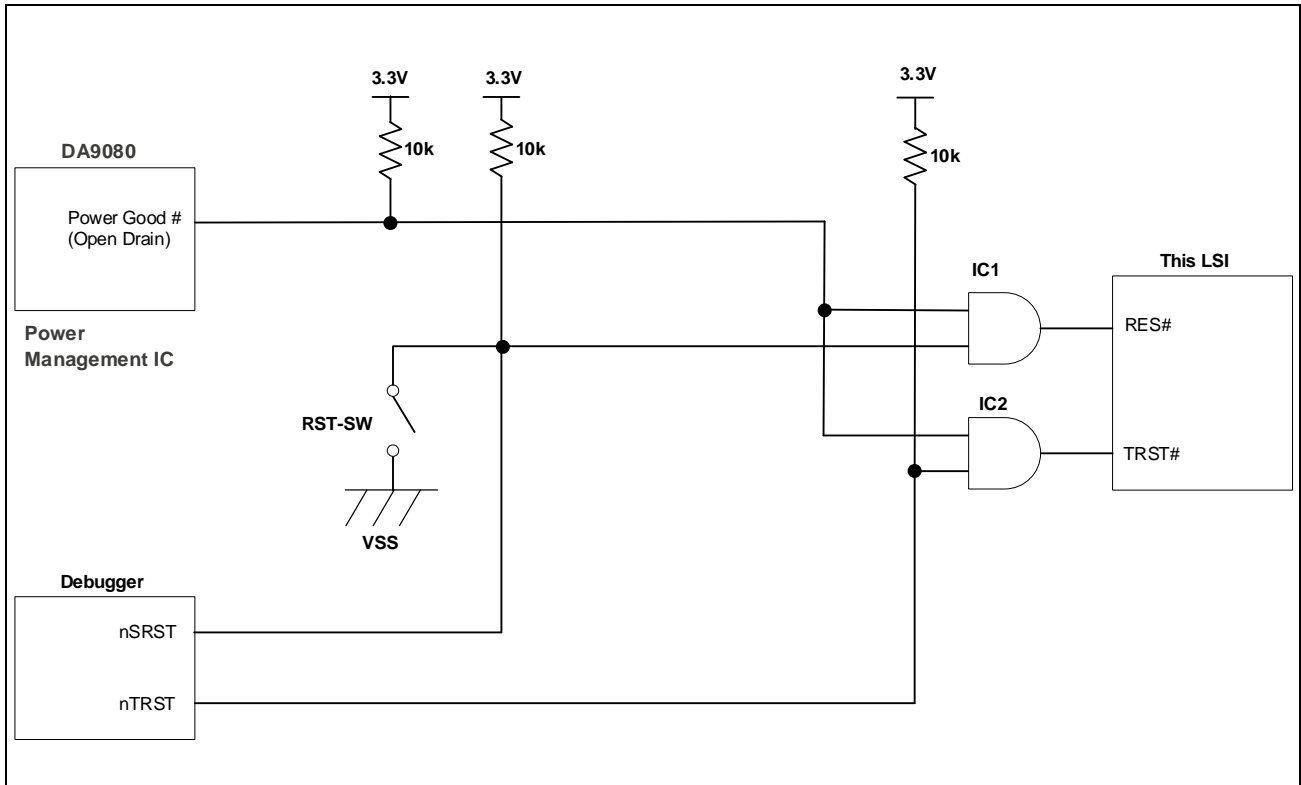
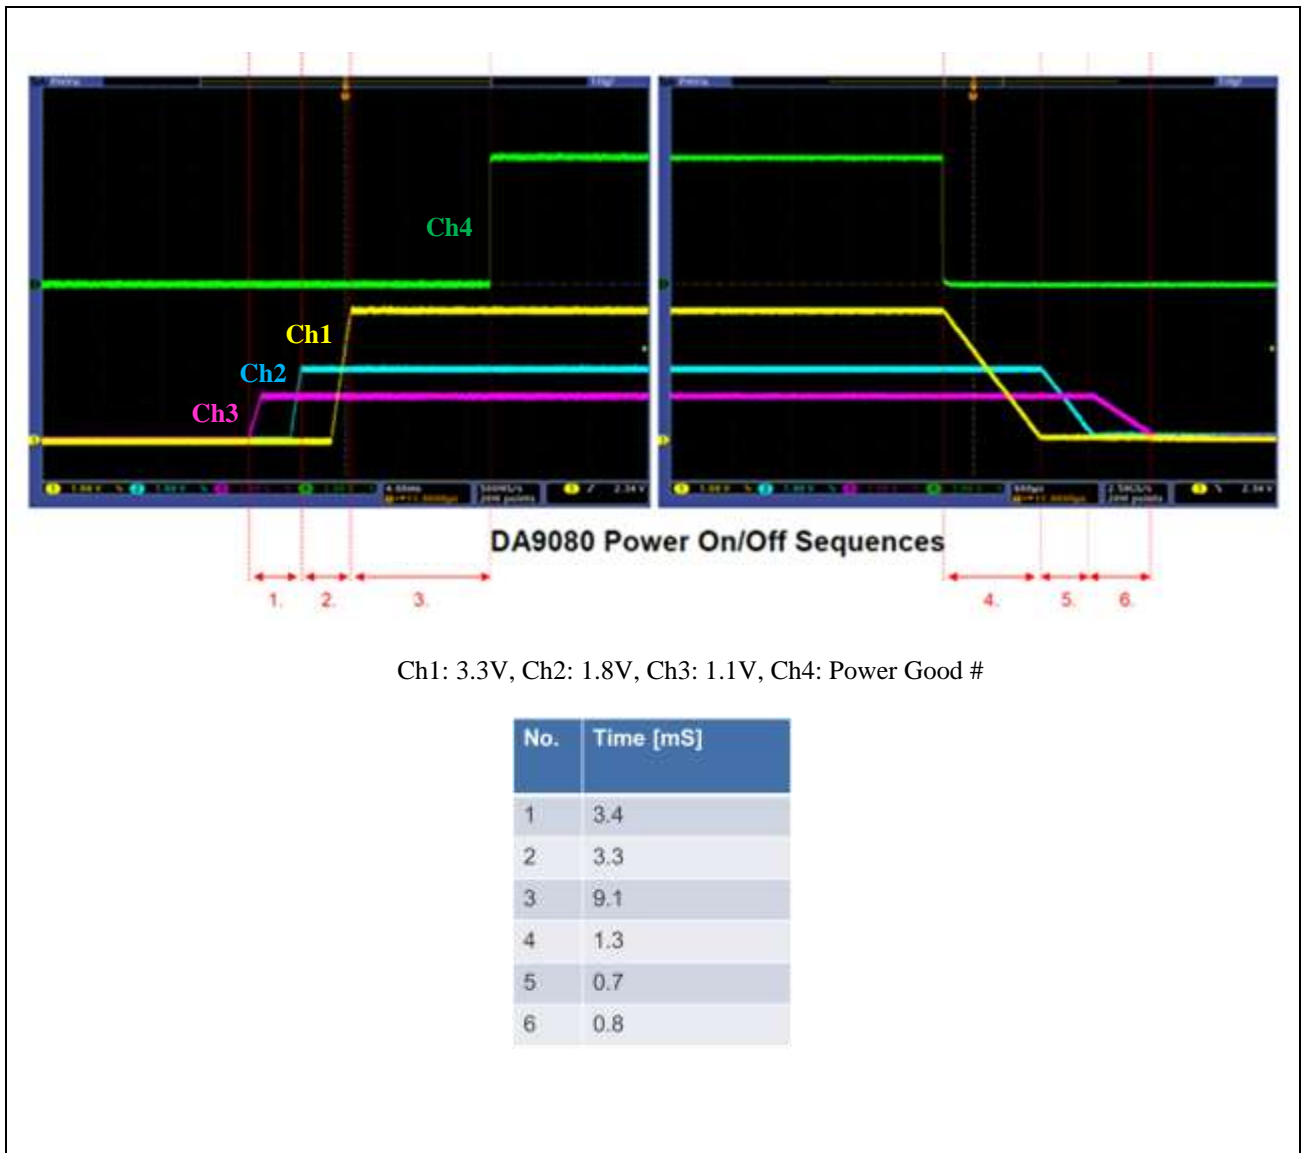

Figure 1.2 Example reset circuit
Figure 1.3 Power on/off sequences and reset circuit timing example
**Figure 1.2** shows an example reset circuit. This example circuit has a circuit configuration which takes into account debugger connection. **Figure 1.3** shows an example timing chart for the circuit.